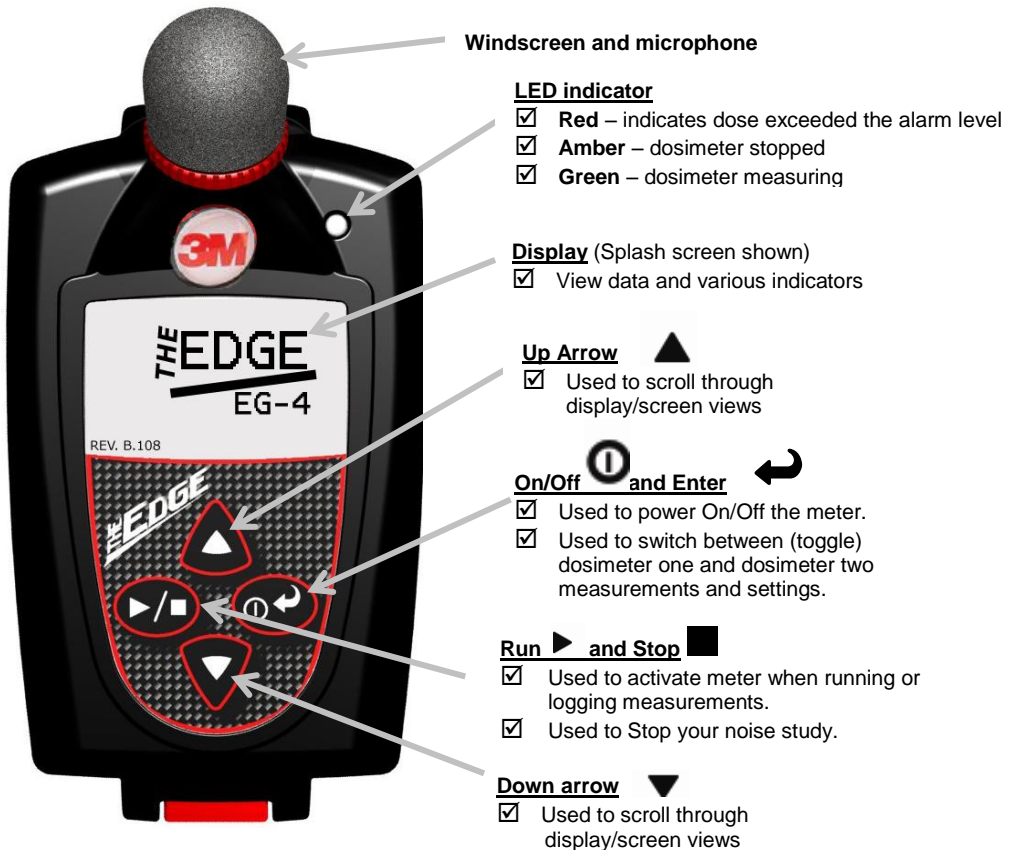

Figure 2-3: Edge Keypad
- The Edge **splash screen** (see Figure 2-3 for an example, page 10) will appear indicating the model (i.e. "eg4" or "eg3") and firmware version. The screen will be in the **measurement view**.